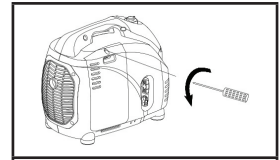

Fig. 28
1. Remove the cover. See figure 28